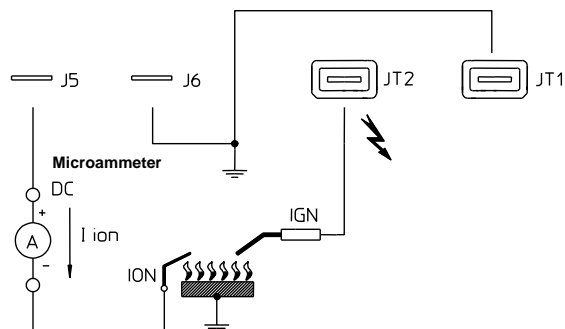

Fig. 7 – Flame signal measurement method in gas versions.
- The level of the flame signal is sufficient (see Fig. 7 and Fig. 8 for the measuring method to be adapted in case of devices for gas and oil appliances respectively);